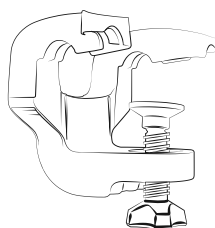

Fig. 2. Fixation stand
- Install the device on even surface (for example, on a table) on its 5 suction cups. If necessary fasten it with the fixation stand (Fig. 2).